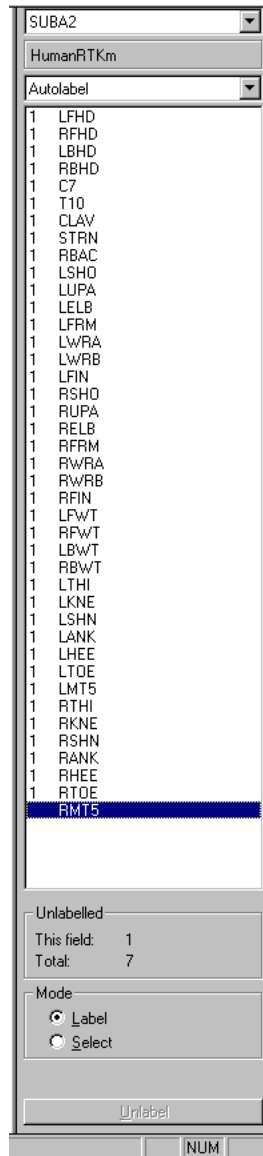
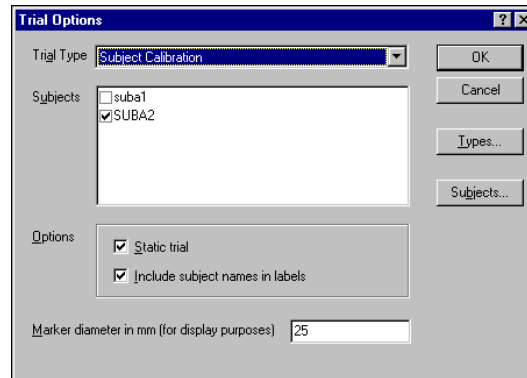

Figure 6: Label window
Figure 7: Trial Options Window
<Trial>/<Options>. Select the autolabel calibration subject by clicking in the box to the left of the subject name. This is the subject that you created during the create autolabel process (Figure 7). Press [OK].
The next step is Autolabeling. First check that the correct marker file is associated with this data. The upper right corner should have the name of the marker file (*Figure 6*). If it doesn't, go to **<Trial>/<Attach Marker Set>** and select the correct marker file. Go to **<Trial>/<Options>**. Select the autolabel calibration subject by clicking in the box to the left of the subject name (*Figure 7*). This is the subject that you created during the create autolabel process in the subject calibration trial. Now select **<Trial>/<Autolabel>**. You will see in the bottom left of the window the status of the autolabeling process.
- 3) When you look at this file, the first line will be “!mkr#2” Vicon just changed the format of this file. The first line tells the system which file format it's using. The file is divided into different Sets. The first set is the Autolabel set and is used by the system for Autolabeling. The second set is the Standard set and is defined for display purposes. There are other sets defined in the marker file, which are used in Bodybuilder. You will notice in the top right side panel of the Workstation window when you have a trial open the word Autolabel (*Figure 6*). The drop down list specifies the display set being used in your window. If you pick the second set Standard you will see a different set of green lines being drawn between the markers. You can create additional display sets if you like in the marker file.